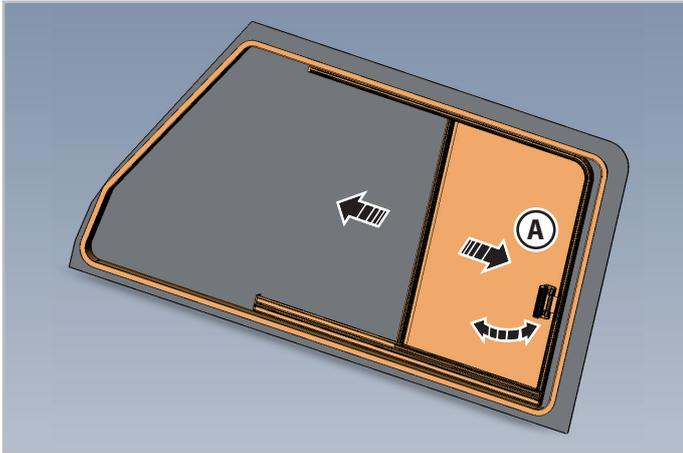

Fig.3.2 - Integrated motorhome sliding window, passenger side
1. Press down on the hook on the rear handle (**A** - Fig.3.2), detaching it from the locking latch, in order to unlock the window.
2. Pull on the handle (**A** - Fig.3.2), bringing the window forwards to the desired position.
1. Pull the handle (**A** - Fig.3.2), bringing the window back to the closed position, until the handle is fully engaged with the locking latch.